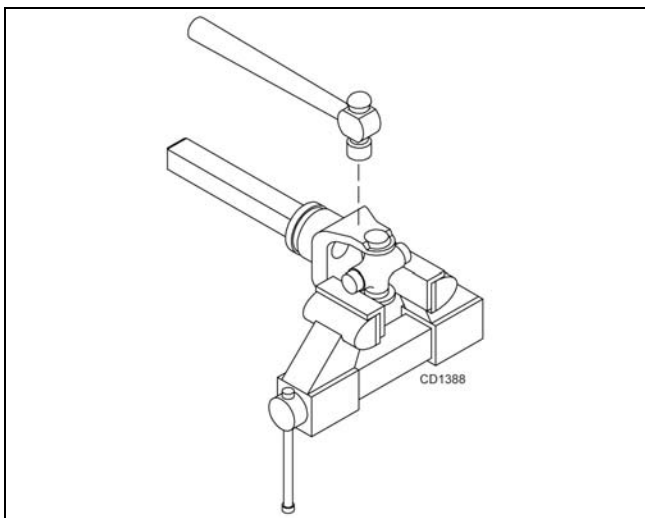

Figure 24.
- Place universal cross in vise as shown in Figure 24 and tap on yoke to remove cup. Repeat Step 3 for final removal. Drive remaining cup out with a drift and hammer.